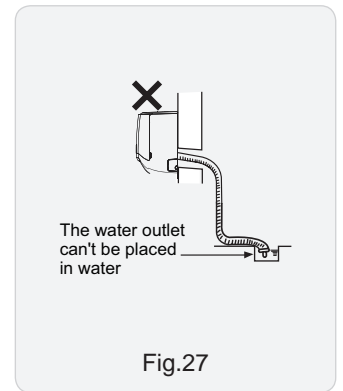

Fig.27
- (3) The water outlet cant be placed in water in order to drain smoothly.(As show in Fig.27)